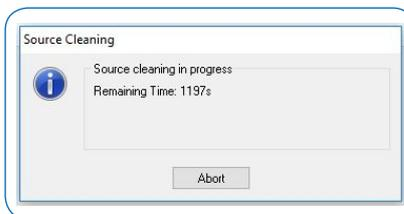

Figure 4.3 Source cleaning status window
- A new window will pop up with source cleaning information (see Figure 4.3)